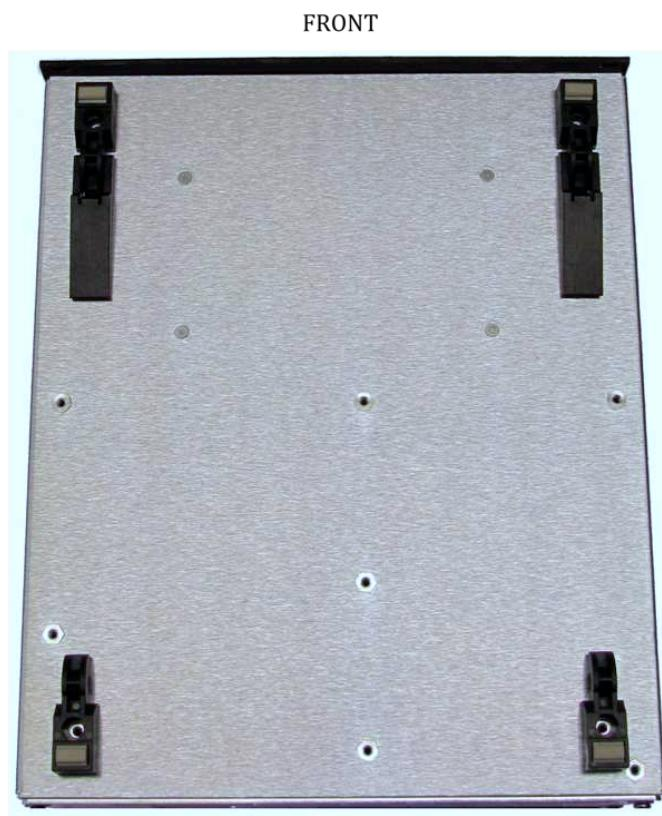

Figure 2.3: Bottom side with feet installed
4. Match feet to designated locations on the bottom(Fig. 2.3).